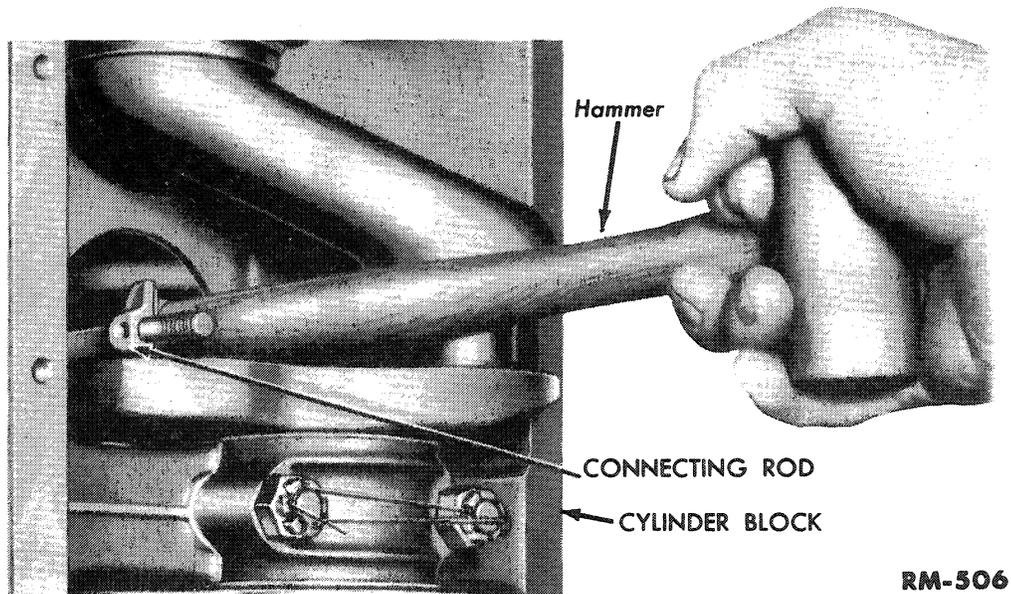

Fig. 7—Removing Connecting Rod and Piston Assembly
h. Remove Connecting Rod and Piston Assemblies. Remove the two nuts from No. 1 connecting rod. Lift the connecting rod bearing cap from the connecting rod. Tap the connecting rod and piston out of the cylinder block with the handle end of a hammer (fig. 7). Install the connecting rod bearing cap on the connecting rod to prevent the bearing inserts from becoming mixed. Repeat the above procedure to remove the remaining connecting rod and piston assemblies.
i. **Remove Crankshaft.** Remove the lock wire and castellated nuts or self-locking nuts from the main bearing caps (fig. 7), and remove the bearing caps. Lift the crankshaft from the cylinder block.